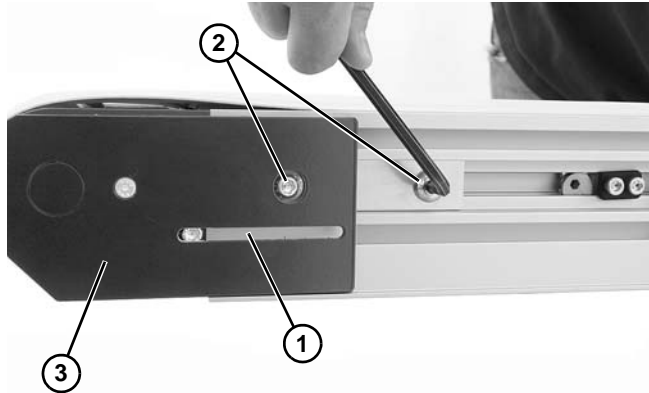

**Figure 44**
1. Place temporary support stands (**Figure 44, item 1**) at both ends of the conveyor.
2. Remove mounting brackets (**Figure 44, item 2**) from one side of conveyor. (Reverse steps 2 & 3 of “Mounting Brackets” section on page 18).